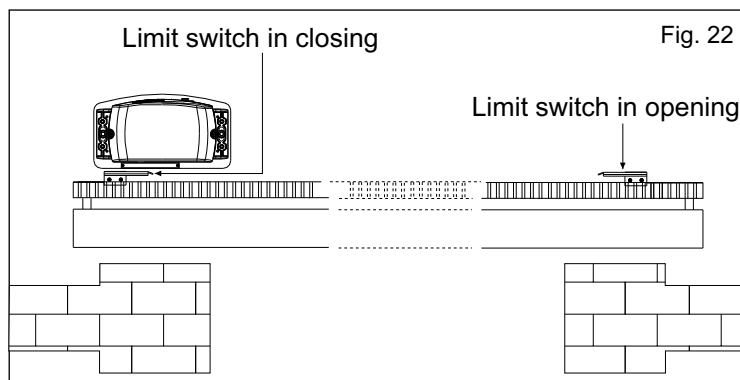

Fig. 22
8.1. In order to install and adjust the limit switch in opening, follow the below mentioned instructions (Fig. 22):
8.2. In order to install and adjust the limit switch in closing, follow the below mentioned instructions (Fig. 22):